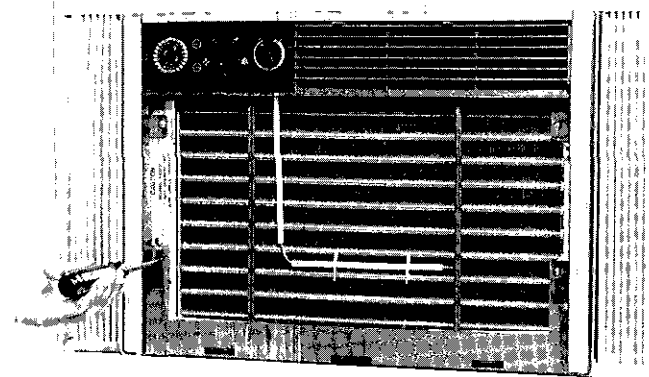

Fig. 4 — Removing Grille Frame Screws
- 3 **Grille Frame** — Grille frame is removed by first removing 4 screws holding frame to chassis. See Fig 4. Pull top of grille frame outward and lift frame away from chassis.